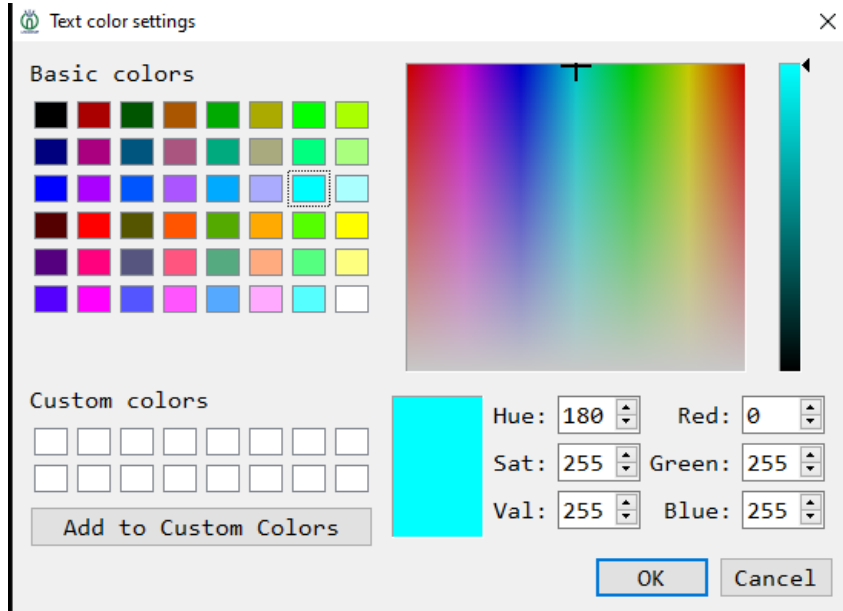

Fig. V-53 Color Setting
Click the toolbar icon  or "Tool (T)" ->"Measurement" ->"Line Color..." in the menu bar to enter line color setting After color setting, click "OK" to apply the new color, or click "Cancel" to cancel the modification. See Fig. V-53:
Click the shortcut toolbar icon  or "Tool (T)" ->"Measurement" ->"Control Point Color..." in the menu bar to enter line color setting (Fig. V-53) After color setting, click "OK" to apply the new color, or click "Cancel" to cancel the modification.